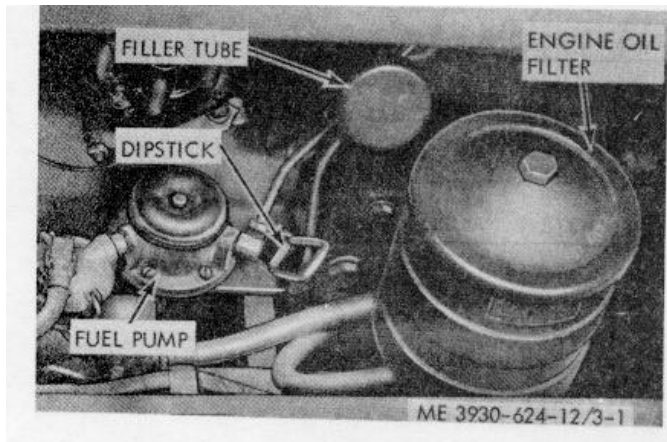

Figure 3-1. Checking crankcase oil level.
(1) The crankcase oil level must be checked every ten hours.
(2) In order to obtain an accurate measurement of the level of oil in the crankcase, the engine must be stopped and the vehicle parked on level ground.
(3) After stopping the engine, allow at least five minutes for the oil to drain back into the oil pan.
(4) Withdraw the dipstick, which is located on the left side of the engine (fig. 3-1) and wipe clean. Reinsert all the way and then remove for a true reading. Add oil as necessary to bring the oil level to the FULL mark on the dipstick.